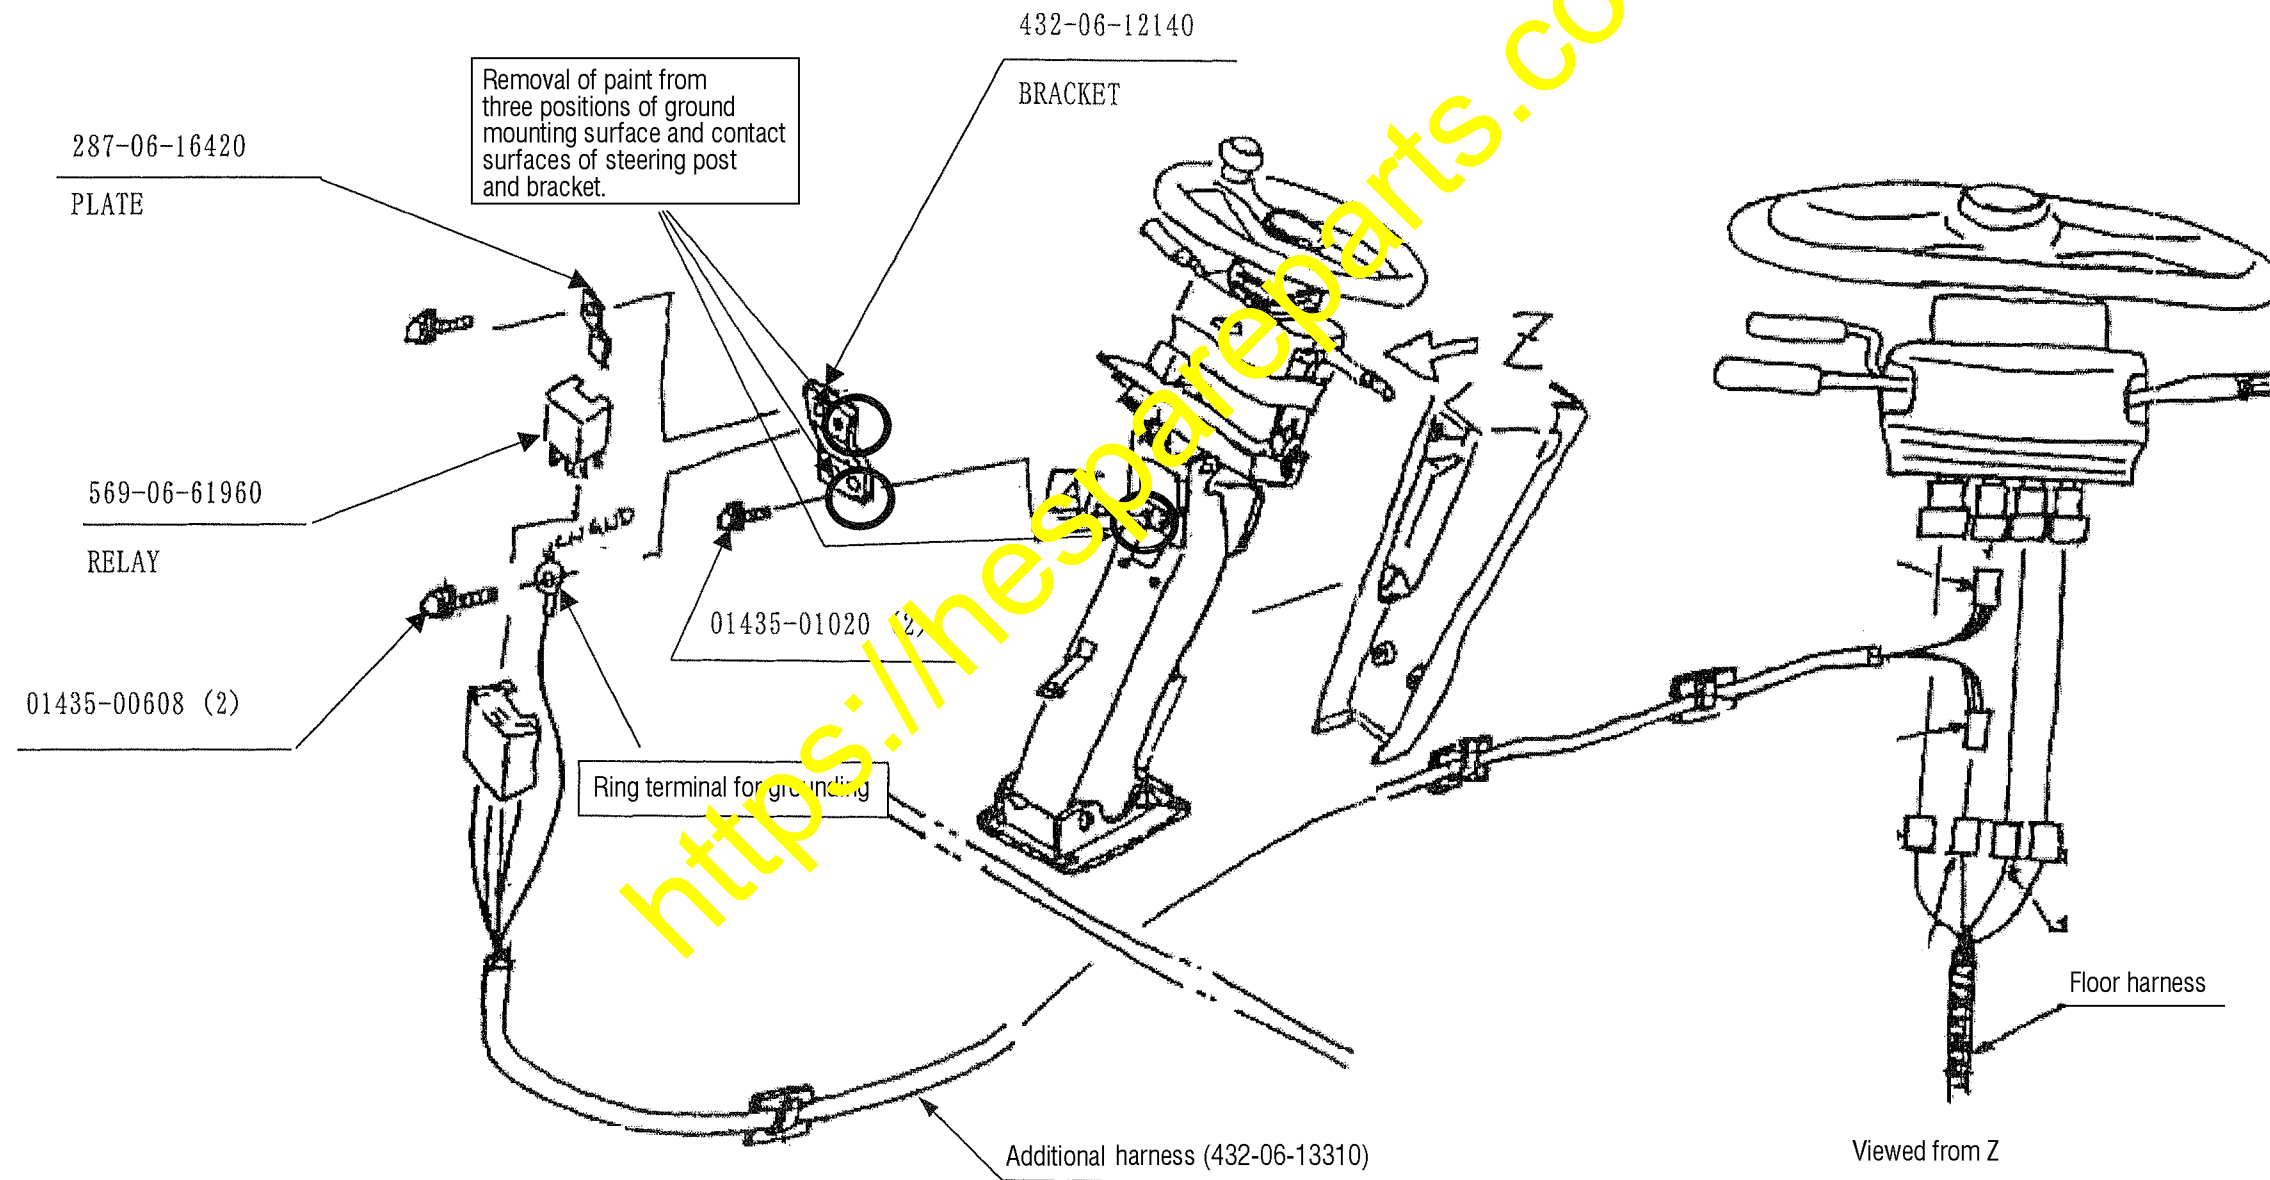

Fig. 12
① Work procedure
- Step 1) Remove paint from the relay fixing bracket and steering post mounting surface and the installed position of the grounding terminal (For details, see Fig. 12.)
- Step 2) Install the head lamp relay at the back of the steering post, using the bracket and plate (For details, see Fig.12.)